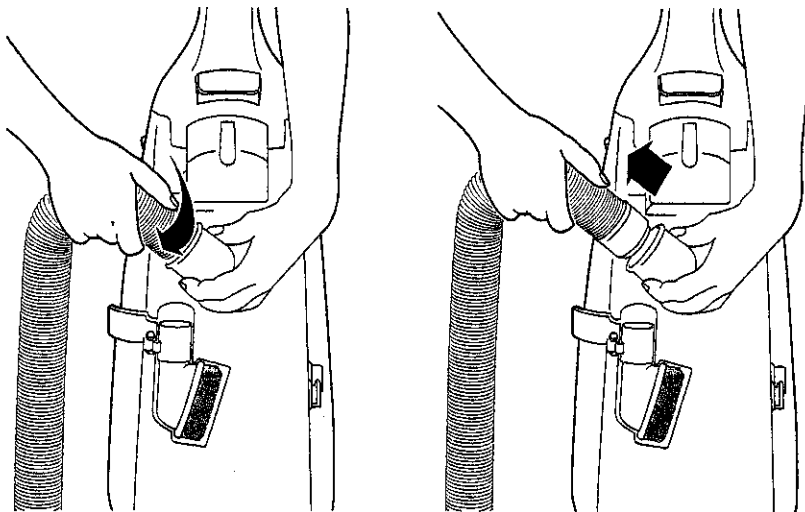

Fig. 1
### Central Filter (Fig. 1)
Remove the hose from the suction inlet, push the small clips inwards, turn the hose right and pull it upwards (Fig. 1). Clean any obstruction from the hose and/or suction inlet using a blunt implement, taking care not to damage the hose.
1. Remove the 4 screws from the base plate and lift it off. (Fig. 1)
1. Remove the base plate, release the head-light assembly and lift it up. (Fig.1)